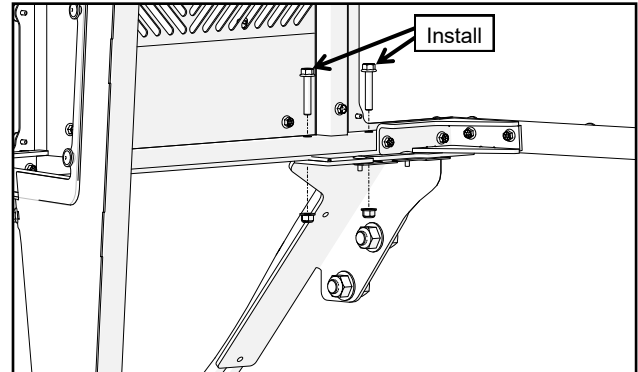

Fig. 2.7 (Install Back of Cab Screws)
- 2.7 Install the back of the cab to R.O.P.S mounts per Figure 2.7.